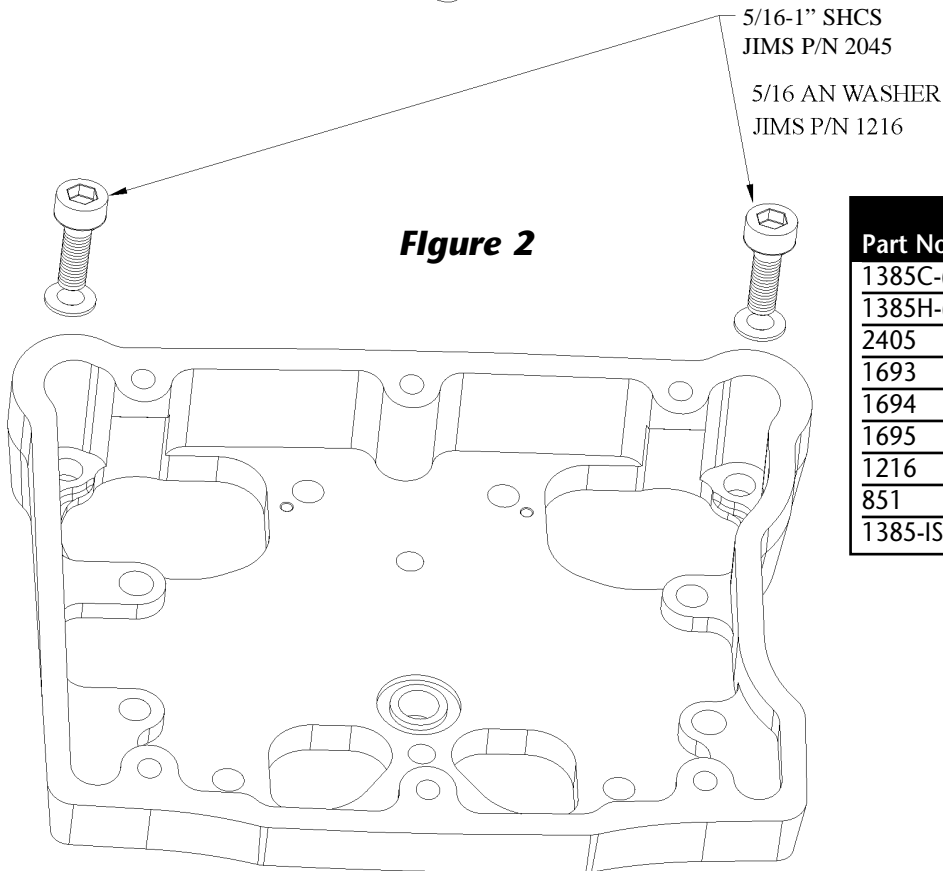

Figure 2
2. Install the JIMS® rocker housing screws Per H-D® service manual. **Note:** JIMS® rocker box screws No.2045 are special length and should not be mixed. See Fig. 2